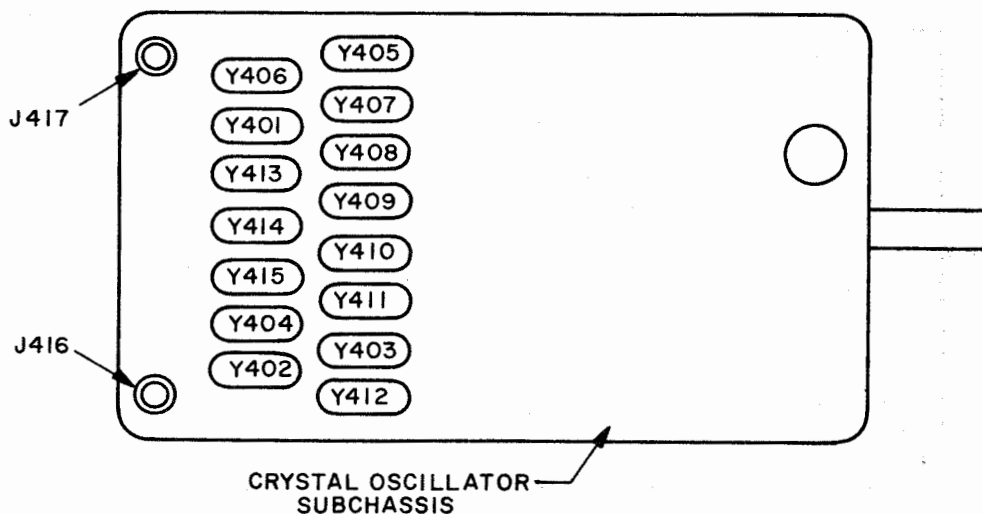

Figure 6-12. Location of Crystals Y401 through Y415
6.3.8 Removal and Replacement of Crystals Under HR401 Crystal Oven Cover. (See figure 6-12.)